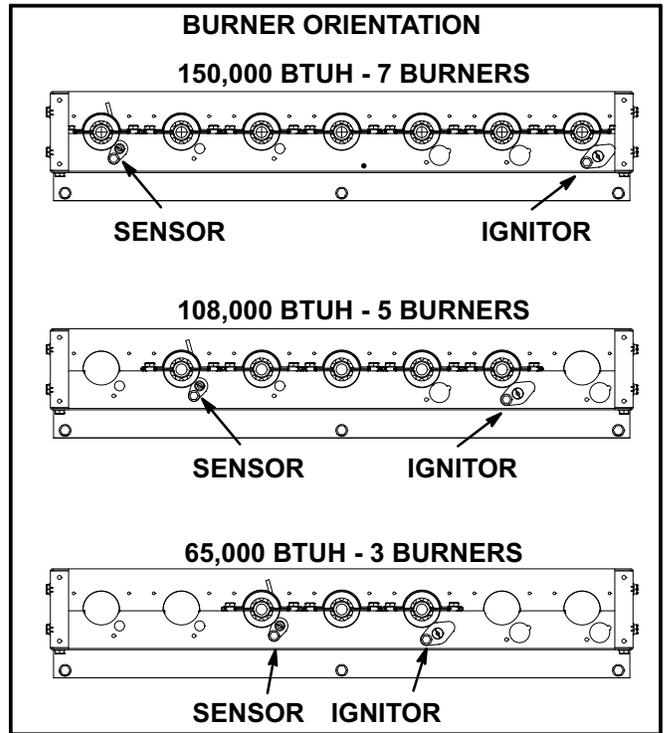

FIGURE 23
- Replace burners and screws securing burner. See figure 23.